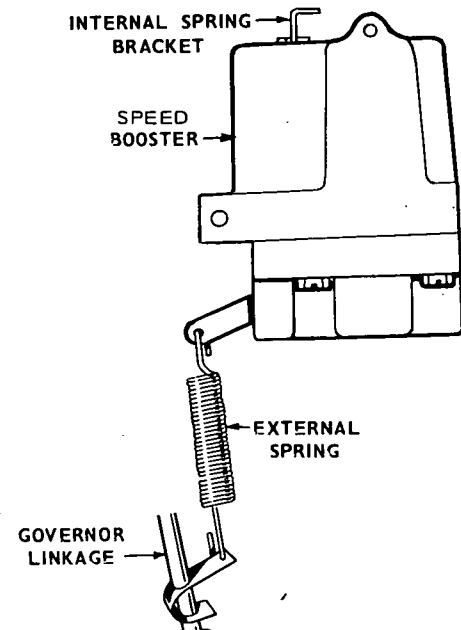

FIGURE 36. SPEED BOOSTER
1. After sensitivity adjustment, connect booster external spring to slide on governor link (Figure 36).
4. If the speed increases more than the no-load frequency when the load is applied, lessen the speed booster's internal spring tension. To change tension, pull out the spring bracket and move the pin to a different hole (Figure 36). If speed decreases when the load is applied, increase the booster's internal spring tension.